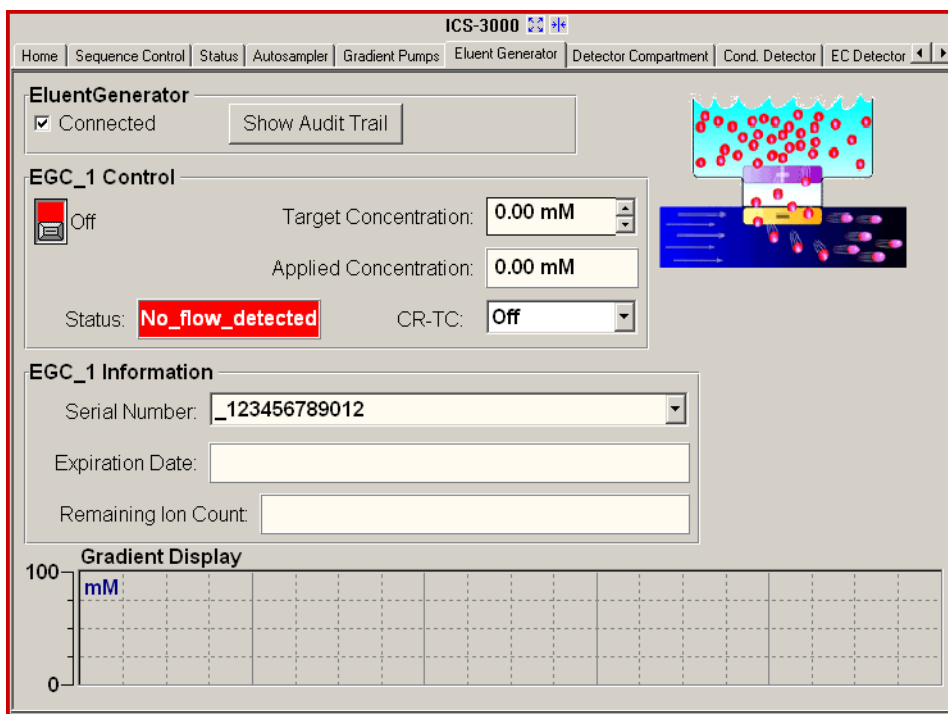

Figure 4-4. EG Control Panel
1. In Chromeleon or Chromeleon Xpress, select the **Eluent Generator** tab on the ICS-3000 panel tabset. This displays the EG Control panel (see Figure 4-4).